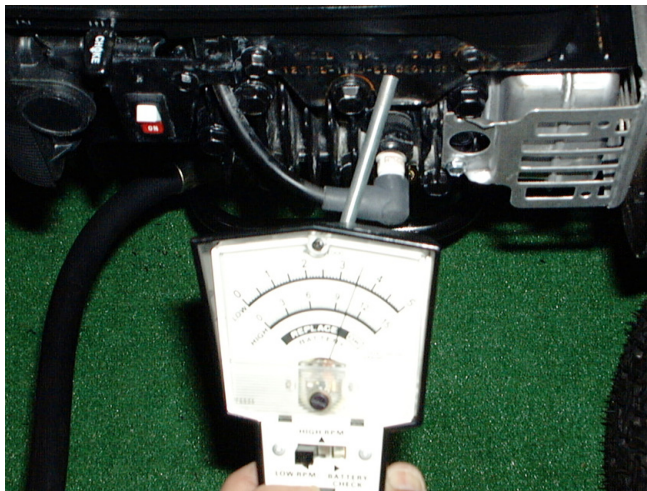

Figure 3
3. Check the engine RPM with a tachometer and make certain the engine is running between 3500 and 3600 RPM.____ See Figure 3.